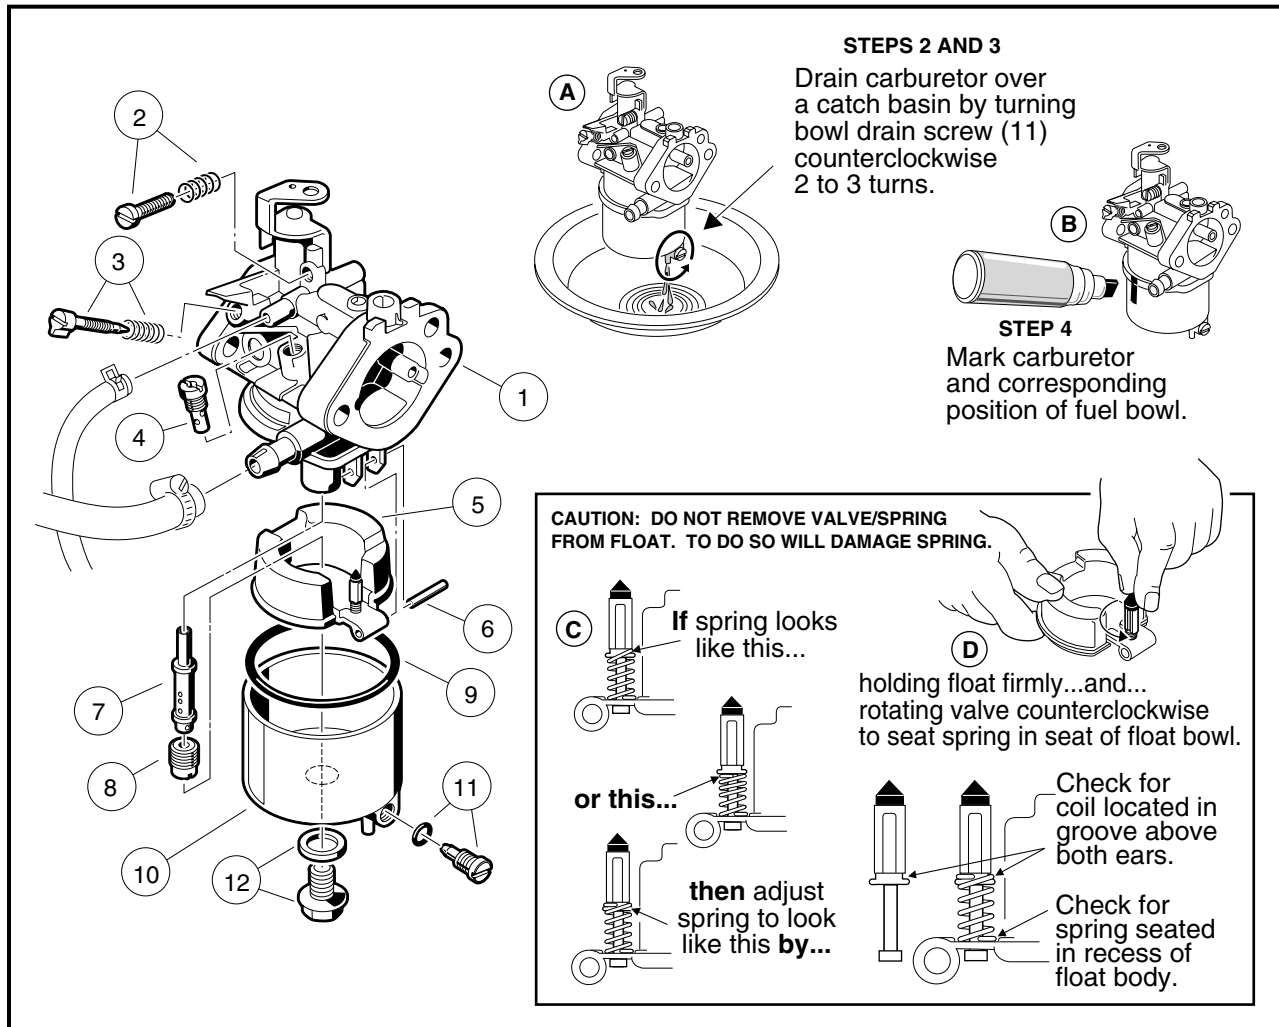

Figure 14-8 Changing the Main Jet
2. Position the carburetor with the drain screw (11) over a catch basin (**Figure 14-8, Page 14-9**).
3. Turn the carburetor bowl drain screw counterclockwise two or three turns and drain all the fuel from the bowl into the catch basin (**Figure 14-8, Page 14-9**). Tighten the drain screw to 10 in-lb (1.1 N·m). Return fuel to the gas tank or dispose of properly.
4. Mark the body of the carburetor and the carburetor fuel bowl with an indelible ink marker so that, after removal, the bowl can be installed again in the same position (**Figure 14-8, Page 14-9**).
- Remove the carburetor fuel bowl retaining screw and washer (12), then remove the fuel bowl (10) and clean it with a nonflammable solvent (**Figure 14-8, Page 14-9**). See following **NOTE**.
NOTE: Make sure the fuel bowl gasket (9) remains properly seated in the carburetor body when the fuel bowl is removed (**Figure 14-8, Page 14-9**).
- Remove the main jet (8) from the carburetor body and discard it (**Figure 14-8, Page 14-9**).
NOTE: Make sure the fuel nozzle (7) does not fall out of the carburetor body after removal of the main jet. This is best accomplished by positioning the carburetor upside down during main jet removal (**Figure 14-8, Page 14-9**).
NOTE: Inspect the main jet nozzle (7) and pilot jet (4) to ensure they are free from contamination. Replace any part that is clogged with contamination. Replace the float if it is damaged, or if the float valve is damaged or worn. Examine the float valve/spring assembly to make sure the spring is installed correctly (**Figure 14-8, Page 14-9**).